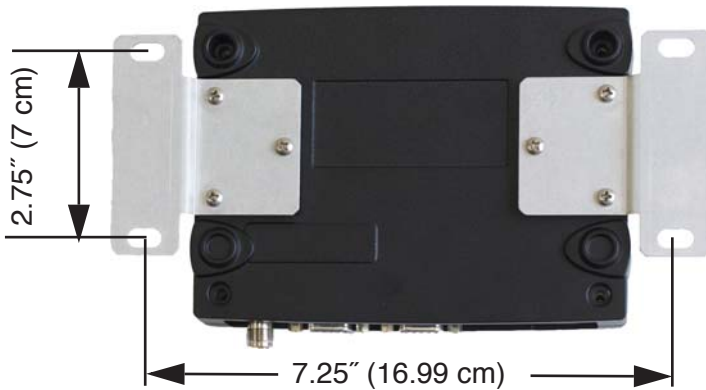

Figure 4. Transceiver Mounting Bracket Dimensions
1. **Mount the transceiver to a stable surface** using the brackets supplied with the radio. Begin by attaching the radio's mounting brackets to the bottom of the transceiver case (if not already attached) using the four 6-32 x 1/4 inch (6 mm) screws supplied. Figure 4 shows the mounting bracket dimensions.